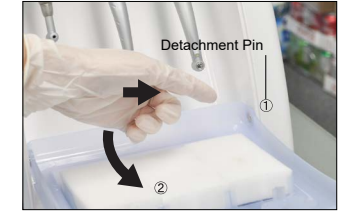

Fig.16
- 2) Remove the Door from the chamber. (Fig. 16)